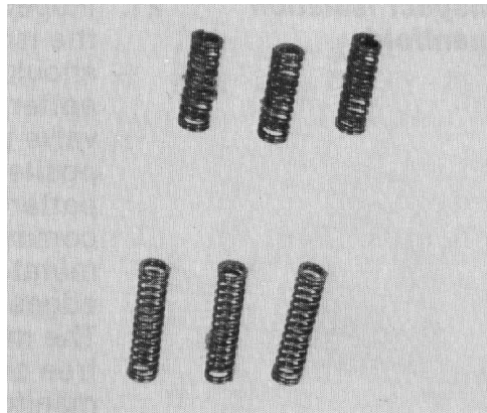

Figure 36
15. Inspect the springs for bent or distorted coils. If a spring is broken or deformed, all six springs in the unit must be replaced (Fig. 36).